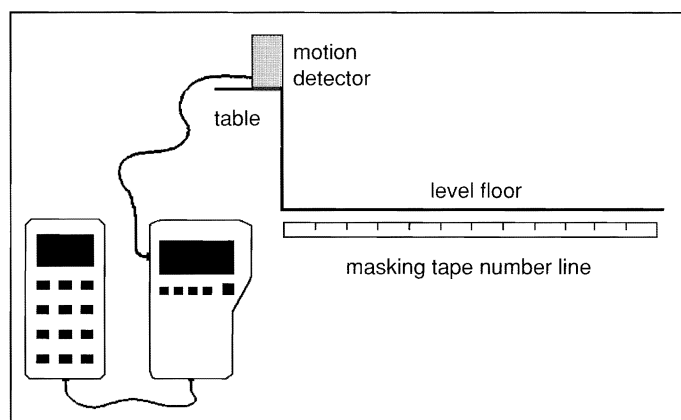

Figure 1: Equipment Setup
To connect the equipment as shown by Figure 1:
- ➋ Connect the motion detector to the SONIC port on the left side of the CBL. Position the motion detector on a flat table as shown in Figure 1.